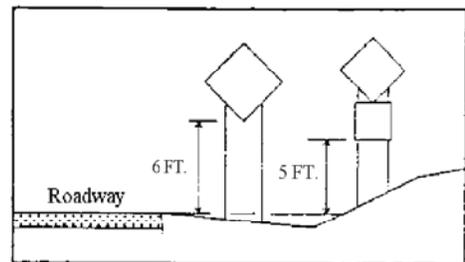
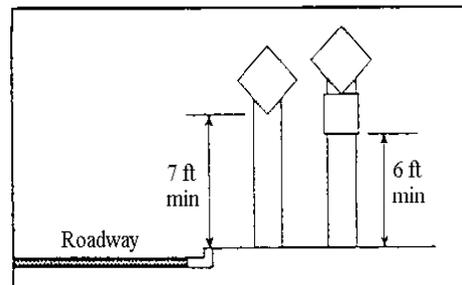
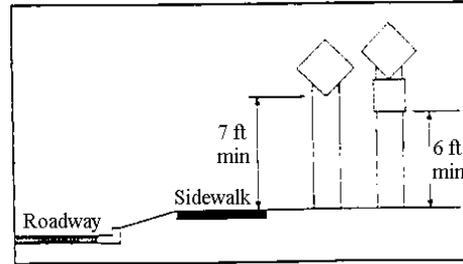

Figure 1 - Rural Open Section
Figure 2 – Urban Curb Section
Figure 3 – Sidewalk Section
Definition - Mounting Height is the vertical distance measured from the bottom of the mounted sign to the near edge of the pavement (Fig. 1) or, in the cases of roadways with curbs and/or sidewalks, to the top of the curb grade (Fig. 2) or sidewalk grade (Fig. 3).
In **rural districts**, signs erected at the side of the roadway should be mounted at a minimum height of six (6) feet (Fig.1).
In **urban districts** (business, commercial and residential districts) where parking and/or pedestrian movement (head bumping) is likely to occur or where there are other sight distance obstructions, the clearance to the bottom of the sign should be a minimum of seven (7) feet (Figs. 2 & 3).
In cases where a roadway cannot be classified as either rural or urban, the work order should be referred to the office as indicated in Part I, Section C, page 6 of the policy. The vertical clearance to the bottom of a secondary sign mounted below another sign may be one foot less than the clearances specified above (Figs. 1, 2 & 3).